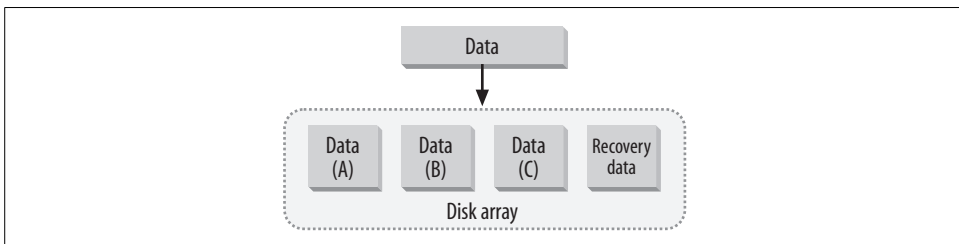

Figure 1-2. Parity redundancy is accomplished by storing recovery data on specified drives.
*Parity* algorithms are the other method of redundancy. When data is written to an array, recovery information is written onto a separate disk, as shown in Figure 1-2. If a drive fails, the original data can be reconstructed from the parity information and the remaining data. You can find more information on how parity redundancy works in Chapter 2.